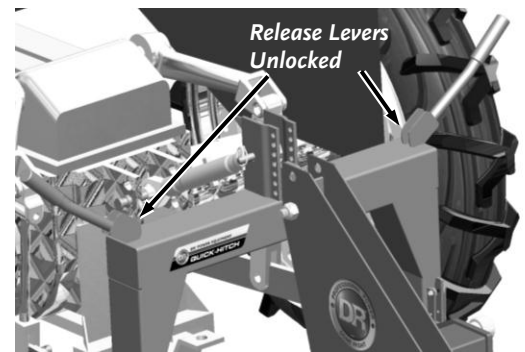

Figure 11
4. Move the Release Levers to the Unlock position (**Figure 11**).